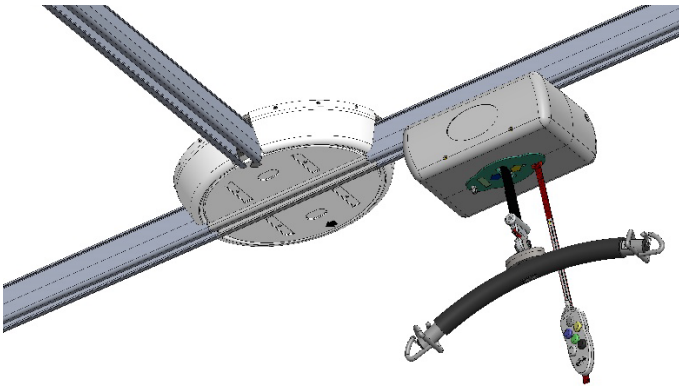

Figure 40
1. Traverse the hoist into the turntable. (Figure 40)